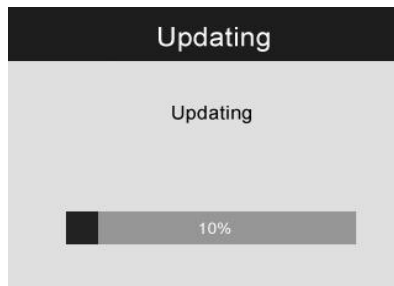

Fig. 31
- 4) Press **Power** button to turn on the tool and then press **UP** button until the update screen pop up, select **YES** to upgrade the tool (*Fig. 31*)